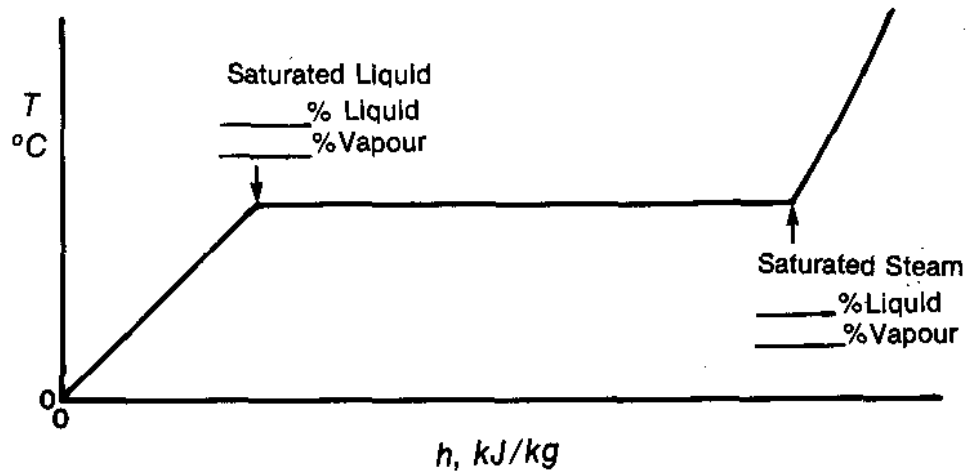

Figure 1.14
→ Use Figure 1.14 to answer the following questions. Write your answers in the space provided, then check them with the "TEXT ANSWERS" before you proceed.
→ (Write the percentages on Figure 1.14 in the appropriate spaces.)
1.18) On Figure 1.14, mark the point that represents wet steam with 75% vapour and 25% steam by mass.